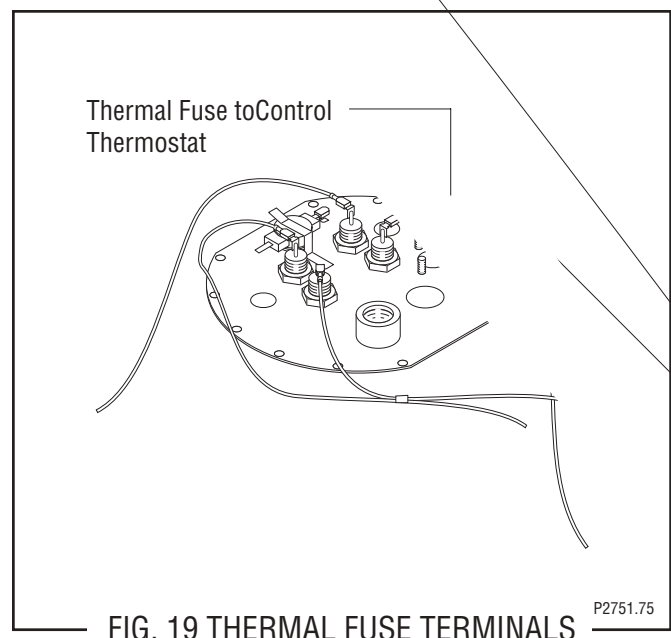

FIG. 19 THERMAL FUSE TERMINALS
4. Refer to Fig. 19 when reconnecting thermal fuse.